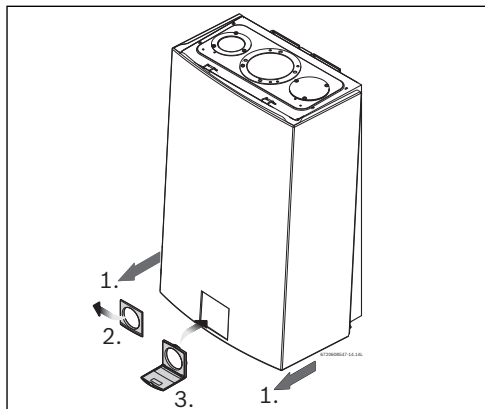

Fig. 3 Replace the control panel shield
- ▶ Remove the front cover panel and replace the original control panel shield with shield provided in the kit, see Fig. 3.